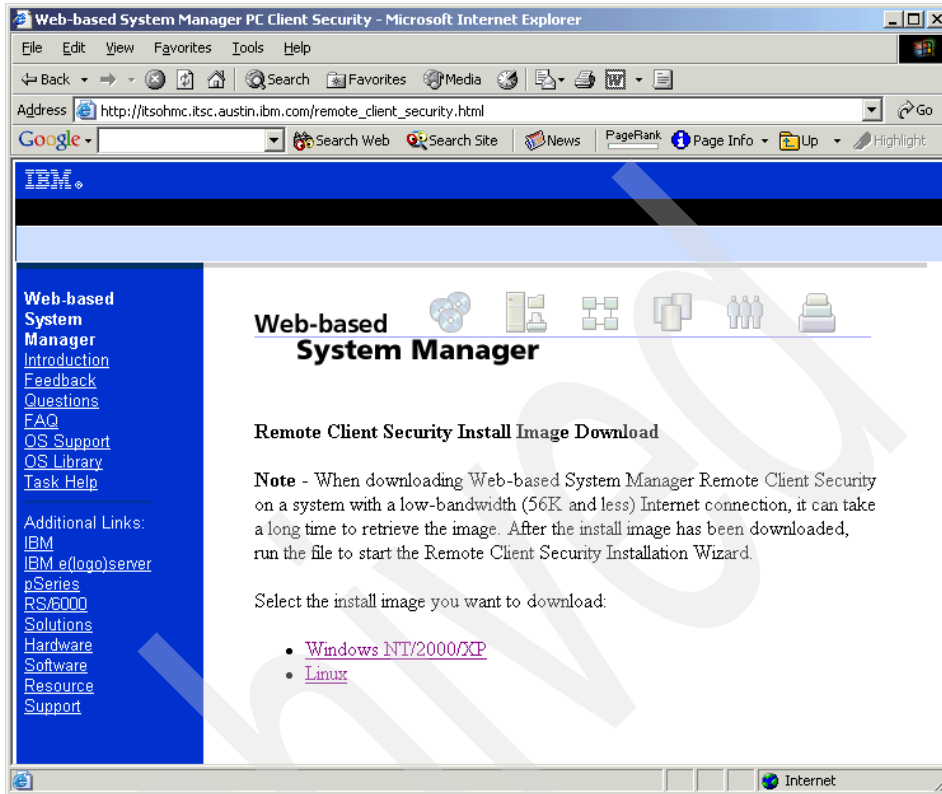

Figure 7-21 Remote client security install image download
Where *host_name* is the host name of the HMC. You will see the remote client security install image download page, as shown in Figure 7-21 on page 144.
2. Click the **Windows NT/2000/XP** link shown in Figure 7-21 to download the setupsec.exe file to your machine.
3. Click the **Linux** link shown in Figure 7-21 on page 144 to download the `setupsecl.exe` file to your machine.